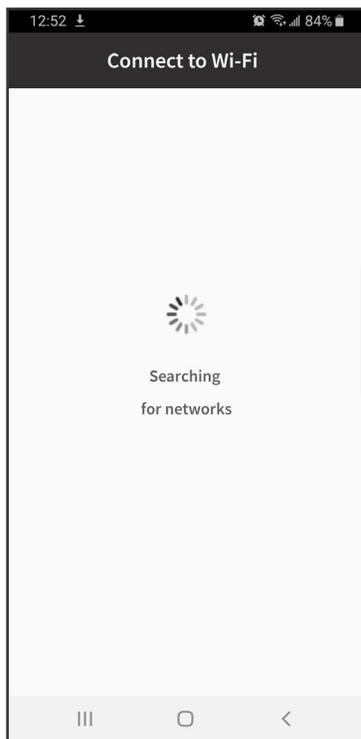

Fig. 7
5. Select desired wifi and connect by entering the wifi password of your home (**Fig. 7 & 8**).